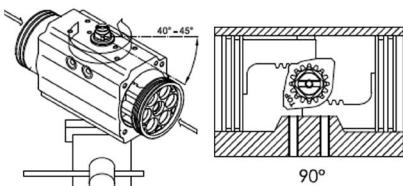

Fig. 14: Housing clockwise
- If installation is in the standard direction of rotation, design ST (closing clockwise), rotate the housing (Pos. 50) by 40–45° clockwise (see Fig. 14.),